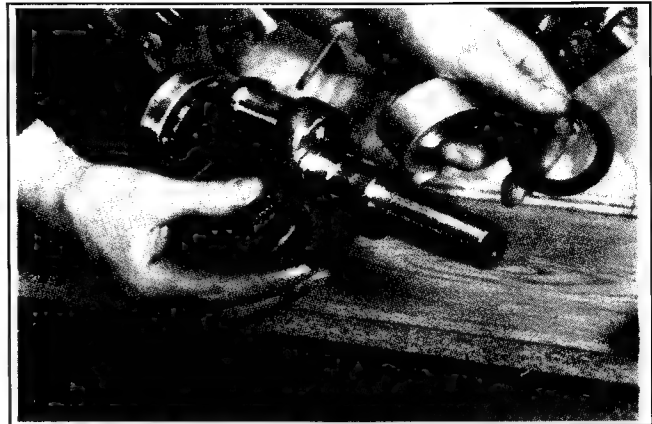

Figure 9-56. Sprocket, Oil Seal, and Sleeve Bearing Removed.
3. Remove the oil seal and sleeve bearing from the front end of the crankshaft. Discard the oil seal. See Figure 9-56.